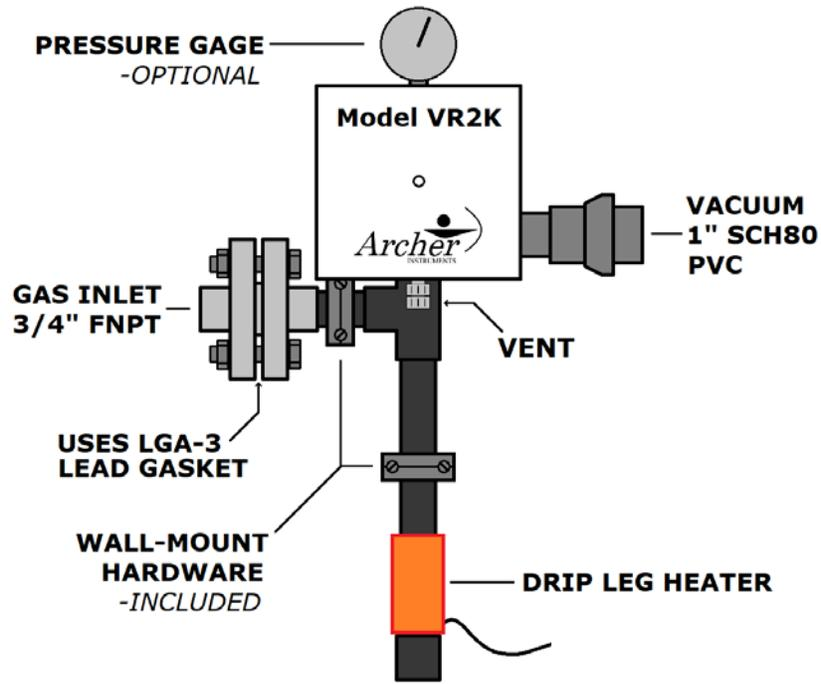

Figure 1
- The VR2K inlet assembly is connected to the back of the vacuum regulator by means of a lead gasket seal (lead gasket part# LGA-3) and four (4) socket head cap screws. Prior to use and during any periods of significant change in ambient temperature, these screws should be checked to make sure they are tight. 20 lbs of torque is recommended. The LGA-3 lead gasket should be replaced once each year, but only after the pressure manifold has been properly evacuated.
1) Wall-mounting: After selecting the best location, mount the VR2K to the wall using the wall-mounting hardware provided, connecting onto the VR2K as shown in Figure 1. The VR2K must be installed vertically (as shown) with the drip leg down.